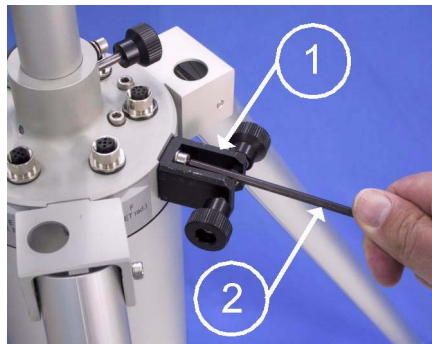

Figure 47 Sensor Arm Support Attachment
9. Attach the sensor arm supports (number 1 in Figure 47 on page 64) to the upper base. Tighten the screw properly with an appropriate tool (2).